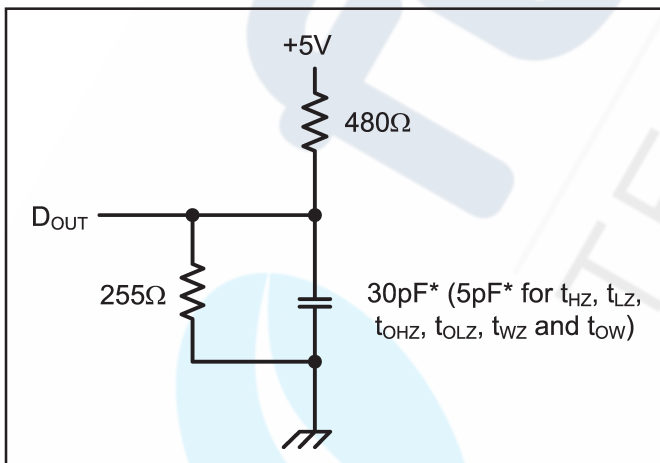

Figure 1. Output Load
- 8. Transition is measured ± 200mV from steady state voltage prior to change, with loading as specified in Figure 1. This parameter is sampled and not 100% tested.
Output Load	See Figures 1 and 2